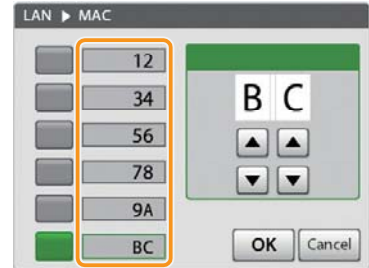

Figure 3-98
- Input the values into all of the boxes with the same operation as in steps 2 and 3. (Figure 3-98)